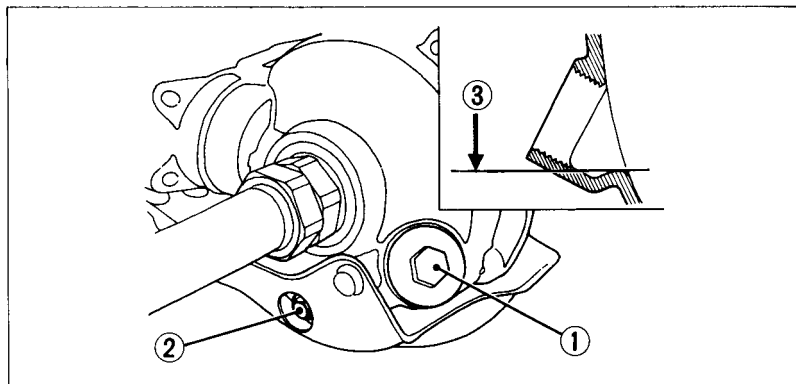

Fig. 4-14
1. To drain the oil, first place an oil drain pan under the oil drain plug (Fig. 4-14).
2. Remove the oil filler cap (1) and the drain plug (2).
4. Fill the final drive with approximately 100 cc (3.3 US oz) of the recommended oil. Make sure the oil fills up to the lower edge of the filler hole (3).